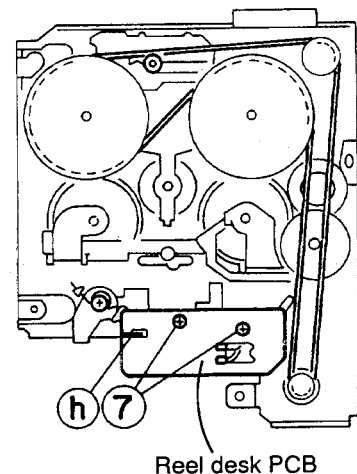

Fig. 2-20
5. Straighten the curved tab ⑨ securing the reel disk PCB. (Fig. 2-20)
6. Remove the two screws ⑦ fixing the reel disk PCB. (Fig. 2-20)